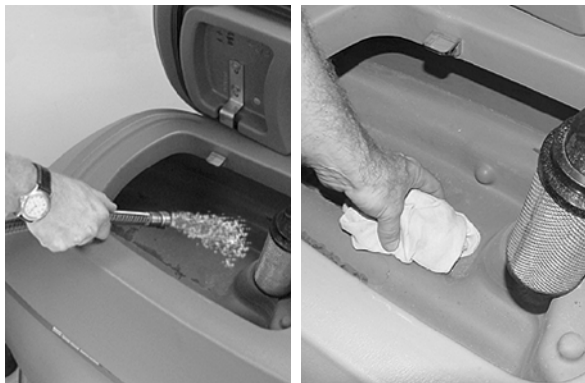

FIG. 29
2. Open the recovery tank cover and rinse out the tank. Use a rag to remove any excess dirt (Figure 29).